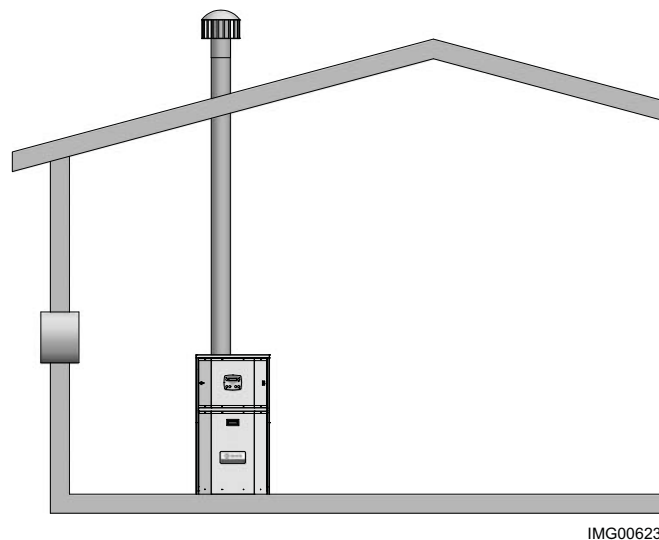

Figure 1-5_Combustion Air from Outside - Single Opening
4. If a single combustion air opening is provided to bring combustion air in directly from the outdoors, the opening must be sized based on a minimum free area of one square inch per 3000 Btu/hr (7 cm² per kW). This opening must be located within 12" (30 cm) of the top of the enclosure (see FIG. 1-5).